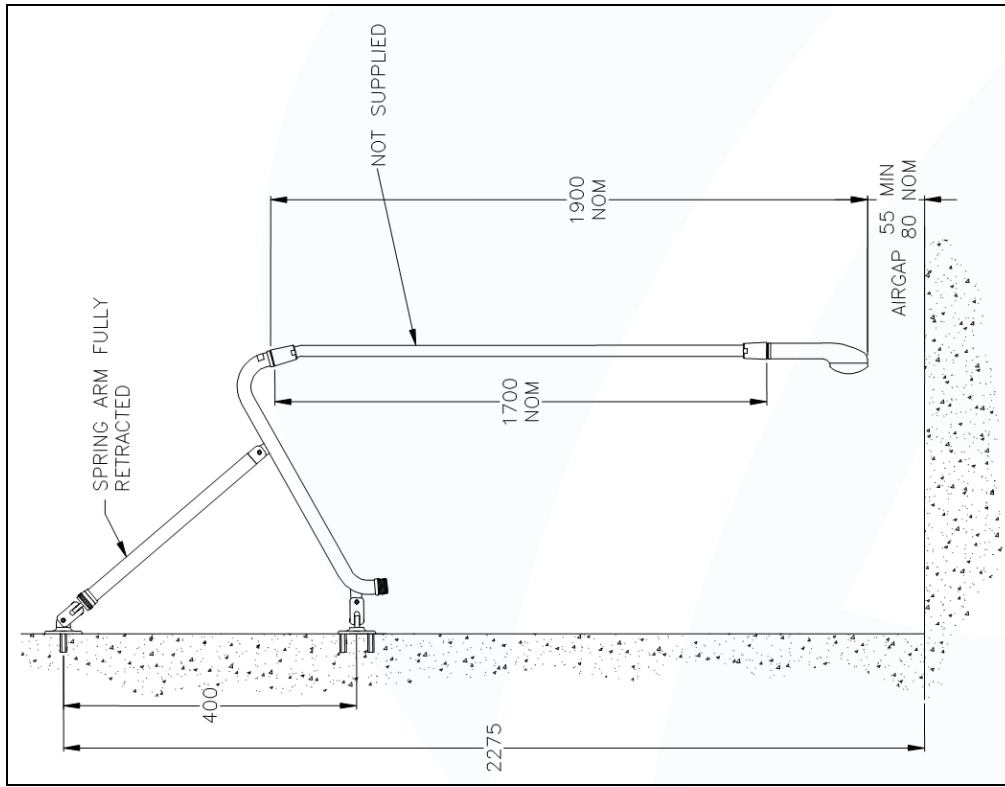
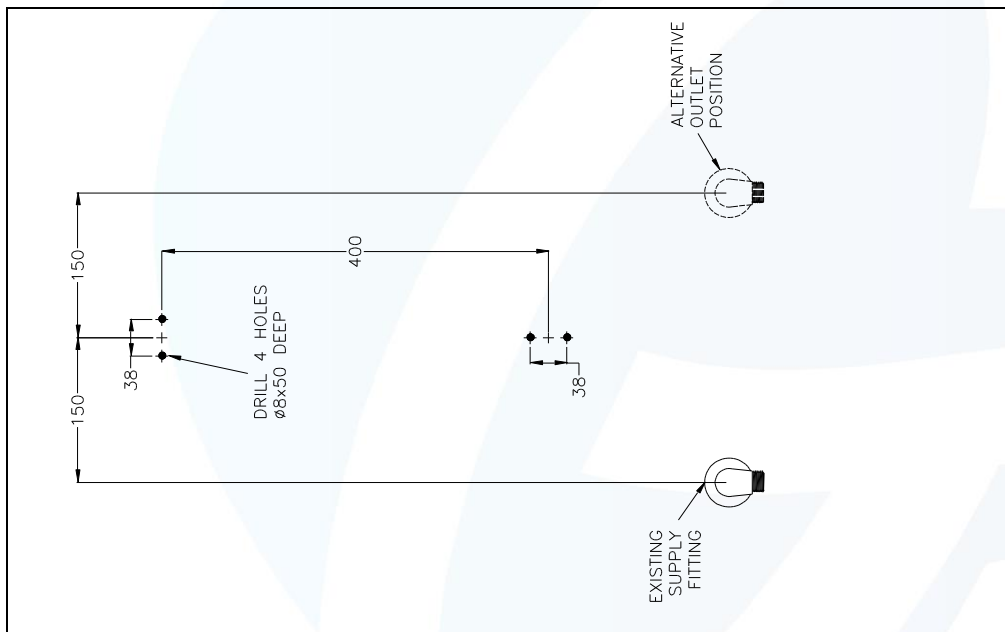
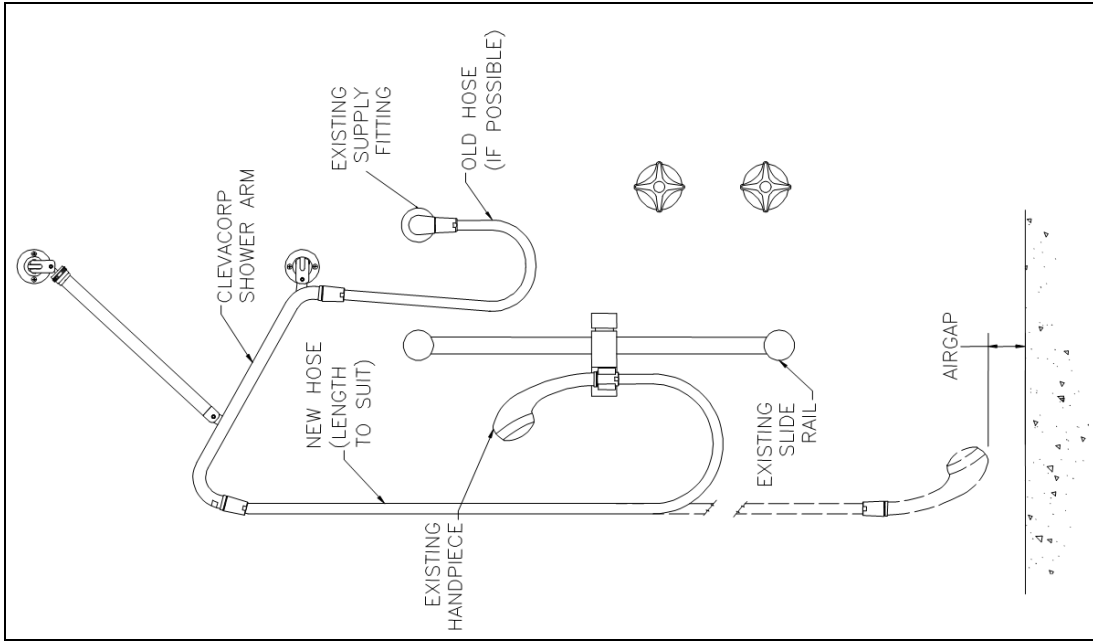

FIG 1. TYPICAL MOUNTING DISTANCE FROM THE FLOOR
FIG 2. MOUNTING DETAILS
FIG 3. TYPICAL RETROFIT INSTALLATION
In the case of retrofit installations, the existing shower components can often be reused. Fig 3 shows a typical retrofit installation.
1. Mark the height of the top flange centre-point by measuring vertically 2275mm above the floor (see Fig 1). Then measure approx 150mm horizontally to the left or right (depending on the position of the shower recess) of the centre of the existing supply fitting (see Fig 2). Drill 2 holes $\varnothing 8 \times 50$ mm deep, 38mm apart (see Fig 2) to suit the top flange.
2. Mark the position of the bottom flange's centre-point 400mm below the top flange's centre-point. Then mark the two holes for mounting the bottom flange in the same manner as the top flange (see Fig 2).
- To comply with back flow prevention standards, the hand spray must hang at least 55mm above the floor to provide an 'air-gap' (see Fig 1 and Fig 3). If the hand piece lies on the floor, Then an appropriate backflow prevention device must be installed.*